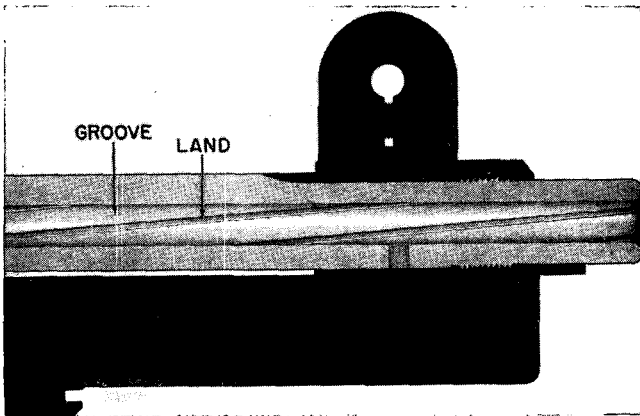

Figure 3. The barrel of the rifle.
c. After examining your rifle to make sure that it is not loaded, look down the bore (fig. 3). The ribs that stand out between the grooves in the bore are called the lands. The grooves and lands are called rifling. This rifling makes the bullet rotate during its flight toward the target. This rotation prevents the bullet from tumbling in flight and causes it to follow a uniform course to the target. The grooves and lands make one complete turn in 10 inches of barrel length.